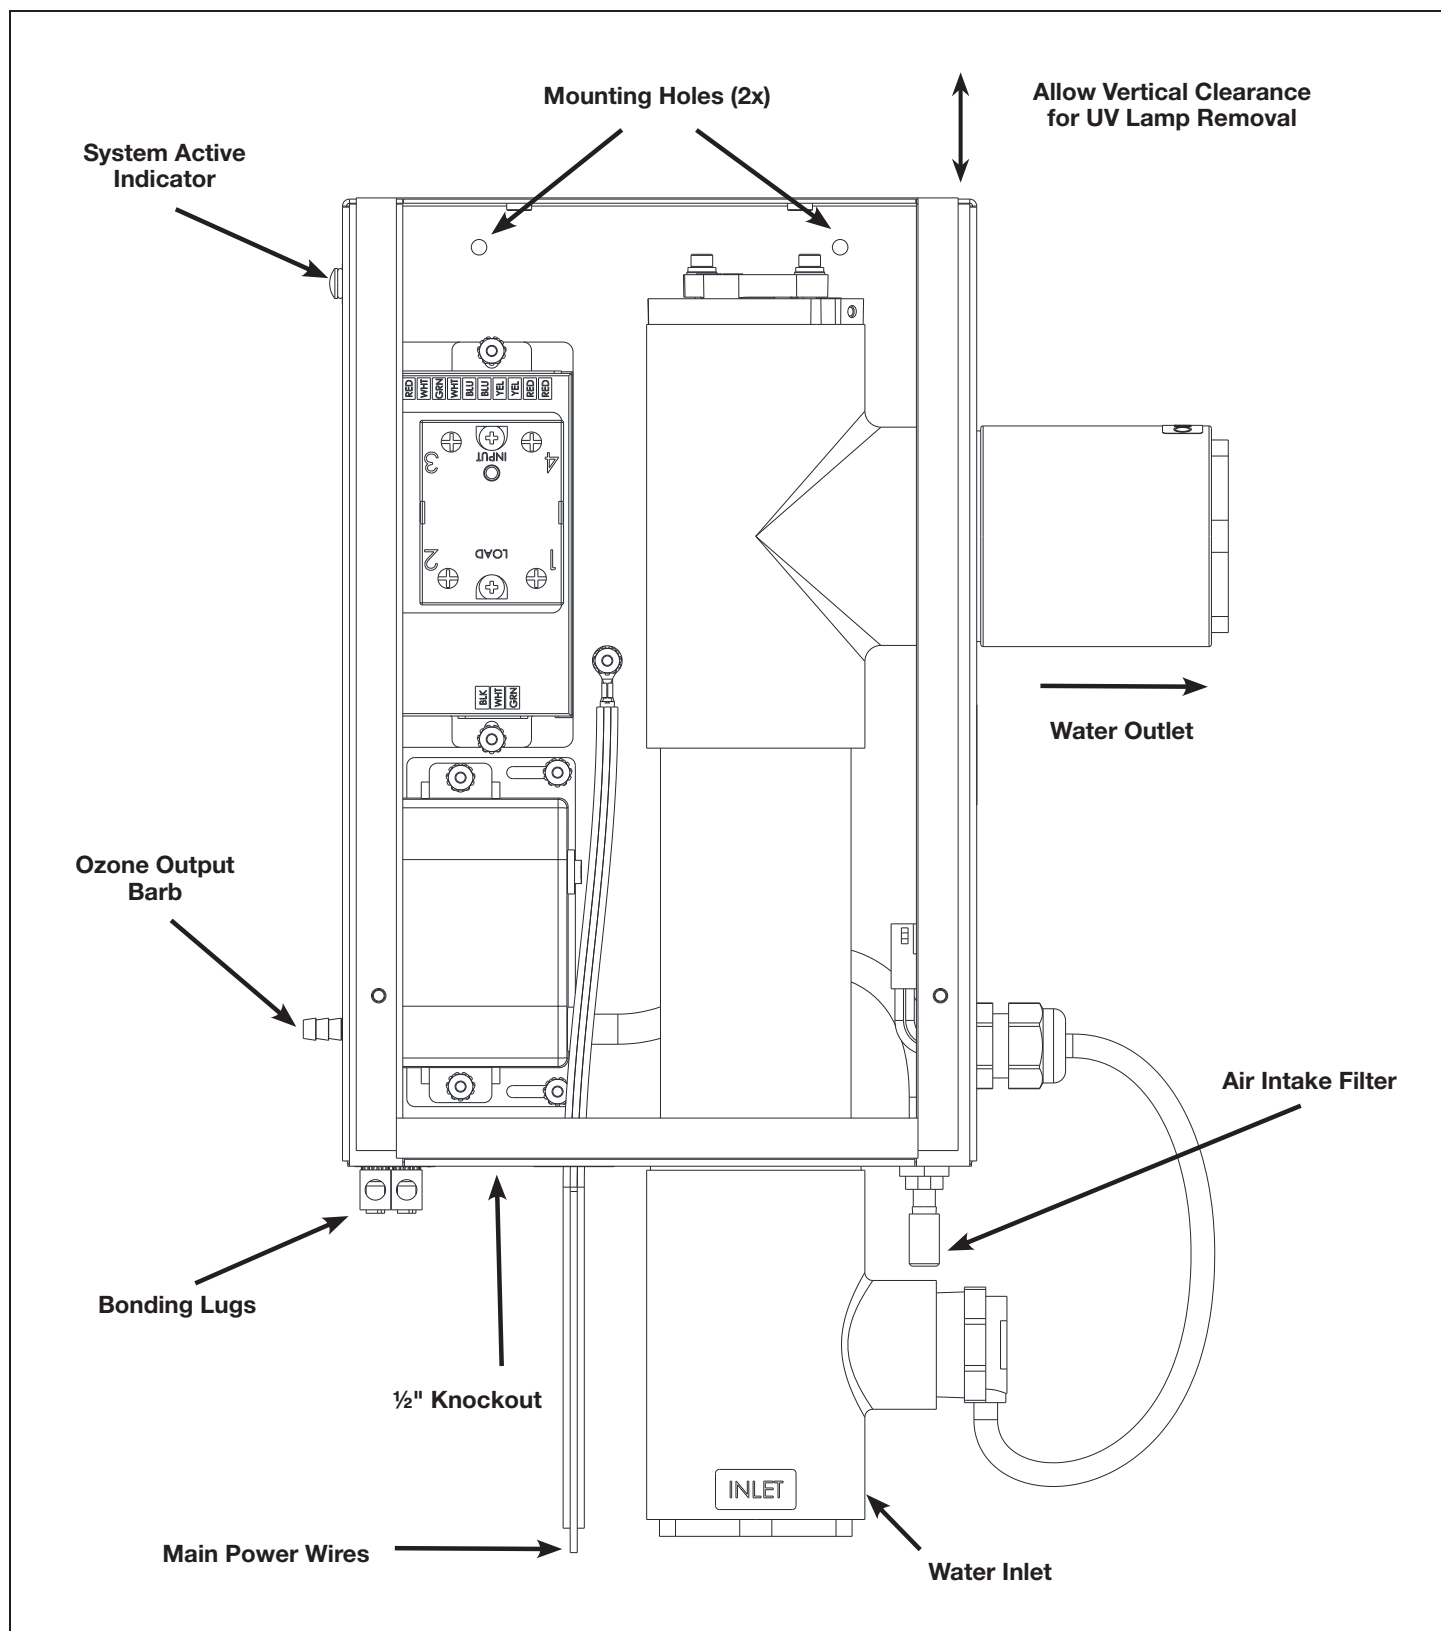

Figure 2. Mounting Location & Notations (Cover Removed)
Mount in a clean, protected area out of direct sunlight. The unit must be installed in an outdoor location, or indoors in a forced air ventilated room, and installed so that the orientation is exactly as shown in Figure 2. Locate out of reach of sprinklers or drainage spouts. Mount in the orientation shown in Figure 2, using the two mounting holes provided inside the enclosure. Follow the instructions below to remove the cover before mounting the enclosure. Allow sufficient clearance in front for internal access, and above for service of the UV lamp and quartz tube (13 inches). The Jandy AOP system should be installed at least one (1) foot above the maximum water level. See Plumbing section for plumbing instructions based on mounting location.
2. Refer to Figure 2 to mark the locations for the two mounting screws.